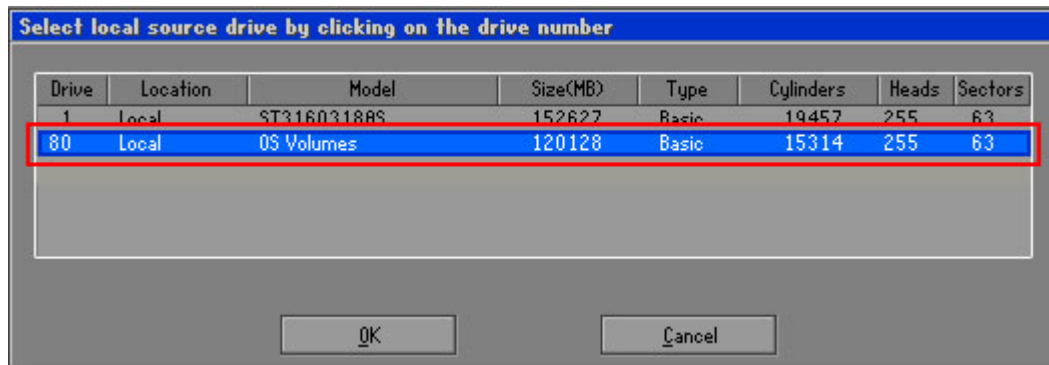

Figure C-11: Select a Local Source Drive
Step 5: Select the local source drive as shown in Figure C-11. Then click OK.